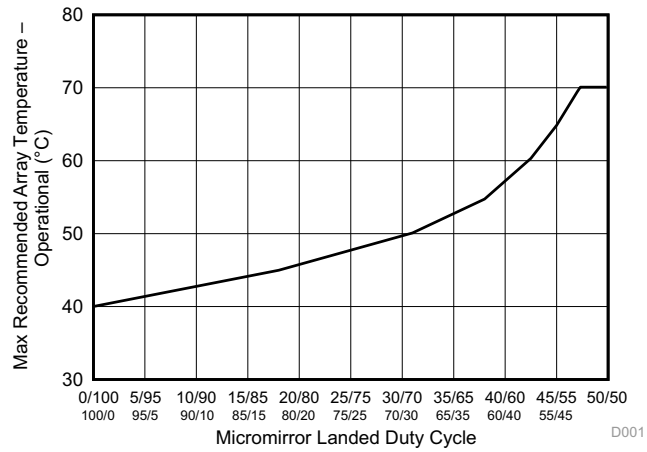

Figure 1. Maximum Recommended Array Temperature – Derating Curve
- (3) Per Figure 1, the maximum operational array temperature should be derated based on the micromirror landed duty cycle that the DMD experiences in the end application. Refer to Micromirror Landed-On/Landed-Off Duty Cycle for a definition of micromirror landed duty cycle.
- (4) Long-term is defined as the usable life of the device
- (5) Short-term is the total cumulative time over the useful life of the device.